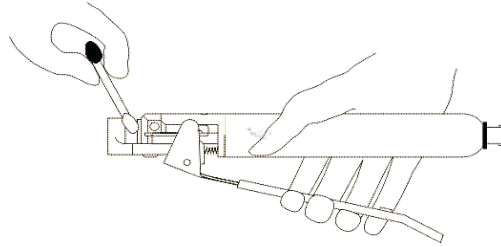

Figure 4-4, Drying the Sealing Region
4. After cleaning the contaminated areas of the sealing region, immediately dry with the dry end of the cotton swab. See Figure 4-4, Drying the Sealing Region.